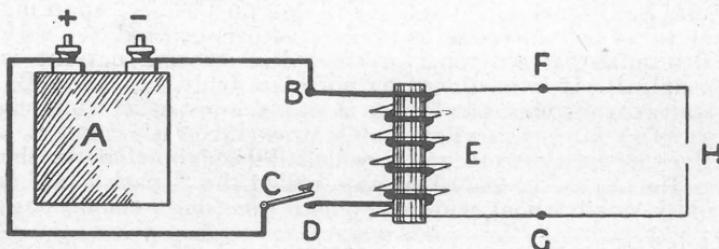
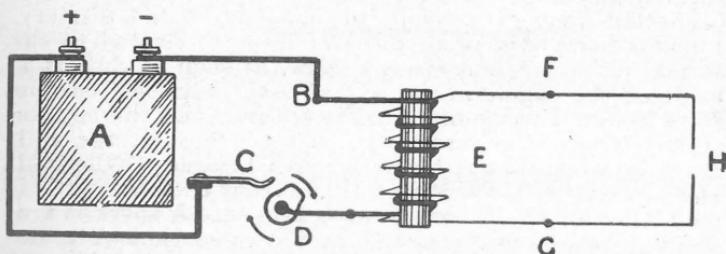

Fig. 3.—Accumulator connected to induction coil.
Fig. 4.—Accumulator and coil with engine-driven contact maker.
Fig. 3 will help to make the matter clear. An accumulator (A) has one terminal connected to the terminal (B) of a solenoid. The other terminal of the accumulator is connected to a metal spring (C), the other end of which is just over the other solenoid terminal (D).
To use an induction coil for ignition purposes, the contact between C and D has to be made by the engine and broken again just when the spark is required. This is done by what is called a *contact maker*, an idea of which may be had from Fig. 4. The arrangement is the same as Fig. 3,
We have the top of an induction coil box, with the ends of the bundle of wires (A) showing. Above them is a flat steel spring (C) corresponding to the spring (C) shown in Fig. 3, fastened down at one end (E), which would be connected to an accumulator terminal. The other end of the spring is in contact with the end (D) of a set-screw, which is connected inside the coil to one end of the primary. Finally, there is a small piece of iron (F) riveted to the spring in the position shown. Now, as soon as contact is made on the engine in the way already described, current flows from the accumulator to the terminal (E), through the spring (C) to the screw (D), and so through the coil. Directly this happens the iron wires become magnetized, and attract the piece of iron (F), so that the spring (C) is pulled down and the contact at D broken. A spark is produced in the secondary, and at the same time A is demagnetized, so that the spring (C) flies up again, and again makes contact with D. Directly this happens the current again flows, C is attracted downwards, and another spark produced. This will continue so long as the commutator on the engine makes contact.
the cam shown in Fig. 4, a "wipe" contact is often employed. This (marked D) consists of a fibre disc, which is an insulator, mounted on the end of the engine camshaft. In it there is a small metal segment, shown black, which runs through to the centre of the disc, and is therefore connected to "earth," or the engine crankcase. Whenever the metal segment on this disc passes under the end of the spring (C) the M terminal of the coil is joined to earth. Inside one end of the secondary is connected to M, so this also is earthed. The other coil terminal (H) is the other end of the secondary winding, and is connected to the sparking plug (E), as already explained. The "—" accumulator terminal is connected to the engine, that is to earth, through an ordinary switch (S). If these connections are followed, it will be seen that every time the circuit is completed at the commutator, the trembler of the coil is started and sparks are produced inside the cylinder by means of the plug (E). All we have to do, therefore, is to set D on the camshaft in such a position that it makes contact with C at the moment an explosion is required.